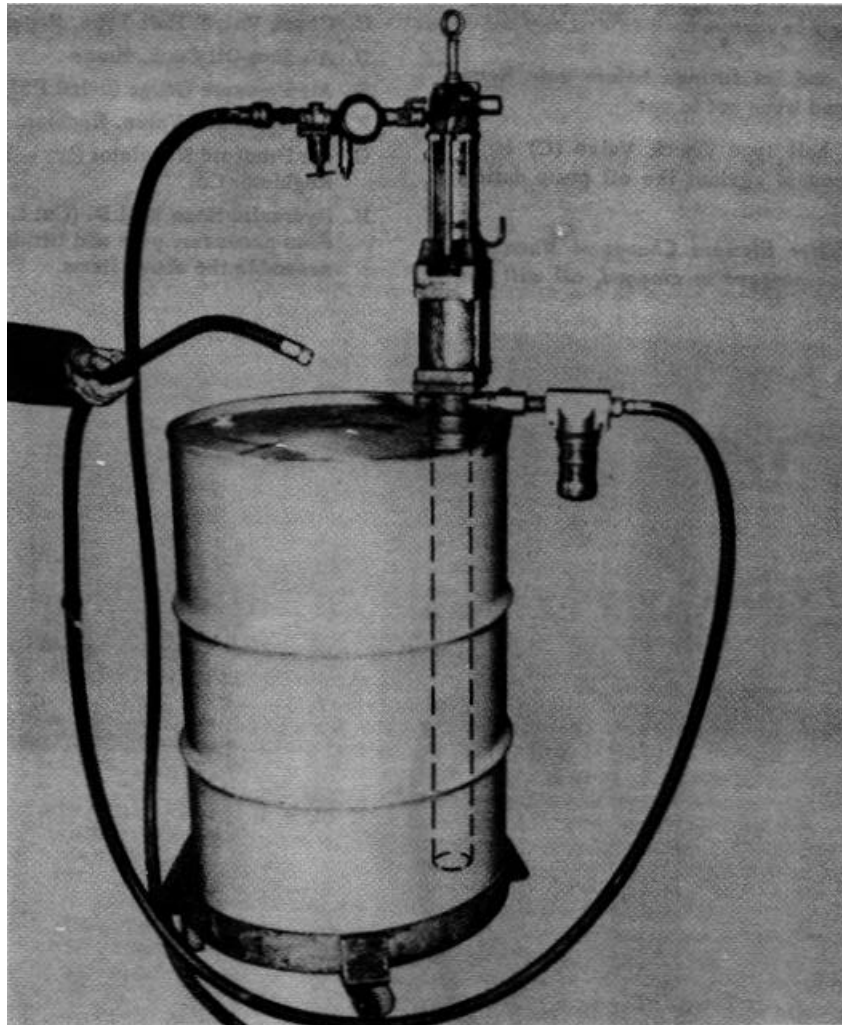

FIGURE 1
2. To provide a list of material to make a pumping and pre-filtering unit as shown in figure 1. It is vitally important that the oil entering the system be filtered thru a #10 micron filter. This is to meet a requirement of the "Sundstrand" Corp. and also to coincide with the standard filling and pre-filtering procedure used for initial start-up.
The pump (A) shown in figure 1 is a "Lincoln" Power Master 2, Model 82734, 4-1 ratio, and must be fitted with the necessary air control devices.